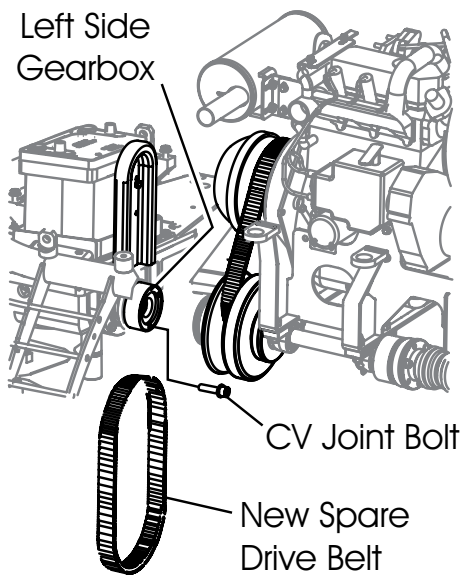

Figure 21. Spare Drive Belt Replacement
To replace a spare drive belt, be prepared to disconnect the CV-joint from the left-side gearbox. See Figure 21.
4. Once the CV-joint has been separated from the left-side gearbox, push the CV-joint inward so that a gap exists between the gearbox and the CV-joint (Figure 21). Slide the spare V-belt between the gearbox coupler and the CV-joint. Avoid contaminating the replacement belt with grease or oil when sliding it between the CV-Joint and gearbox coupler.